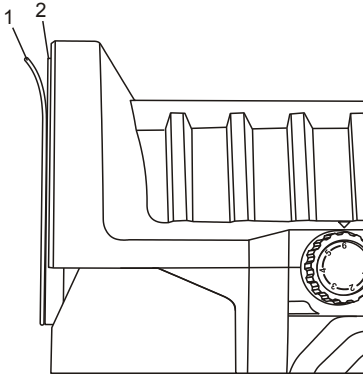

Fig. 4
NOTE: Once the sanding table has been removed, the sanding disc can be removed or installed as outlined in Fig. 4 below.
2. Peel the old sandpaper (1) from the plate (2) (Fig. 4).